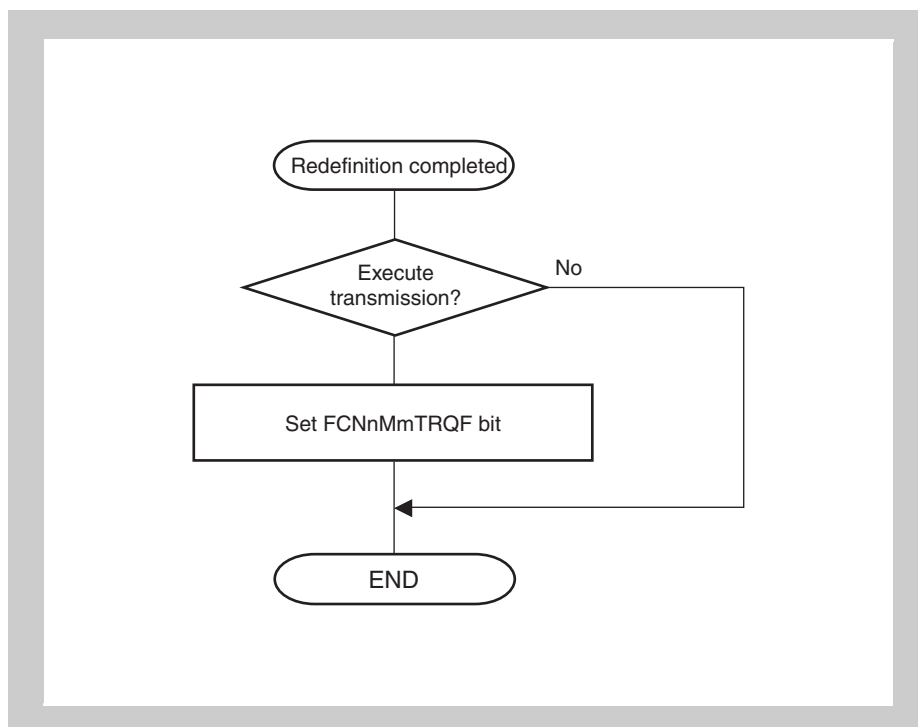

Figure 24-4 Setting transmission request (FCNnMmCTL.FCNnMmTRQF) to transmit message buffer after redefinition
2. When a message is transmitted, the transmission priority is checked in accordance with the ID, IDE, and FCNnMmSTRB.FCNnMmSSRT set to each transmit message buffer to which a transmission request was set. The transmit message buffer having the highest priority is selected for transmission. If the procedure in *Figure 24-4 "Setting transmission request (FCNnMmCTL.FCNnMmTRQF) to transmit message buffer after redefinition" on page 1454* is not observed, a message with an ID not having the highest priority may be transmitted after redefinition.